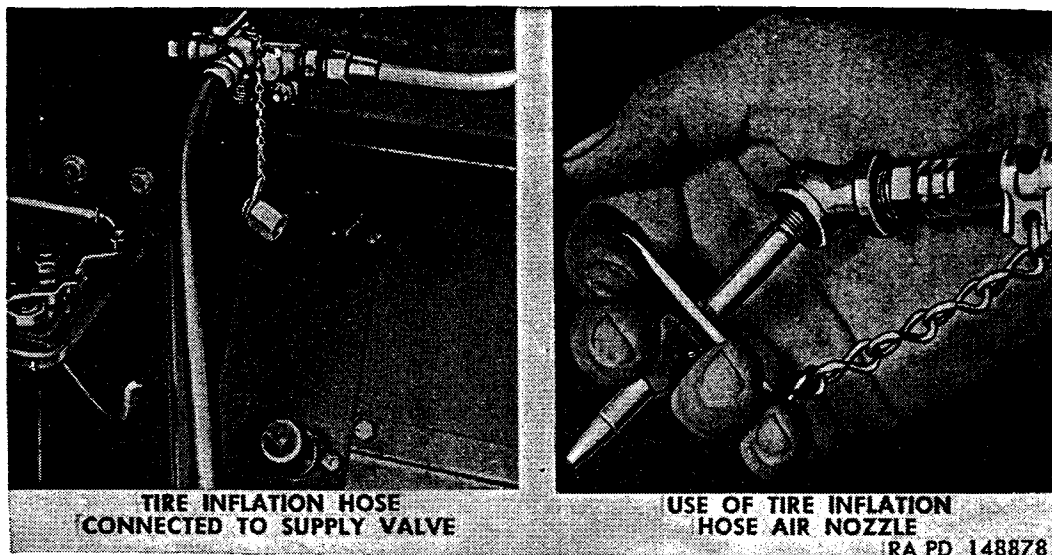

Figure 263. Use of tire inflation hose.
b. Use of Tire Inflation Hose (fig. 263). An air supply valve is provided at left side of dash panel inside cab, adjacent to cowl left side ventilator. Supply valve is connected to vehicle air system through junction fitting at center of dash panel. Tire inflation air hose is provided in vehicle tool kit. Remove cap from supply valve and thread hose fitting onto valve. Open valve by turning handle parallel to hose outlet. Air nozzle is attached to hose by a chain. Nozzle may be used for cleaning and drying parts.